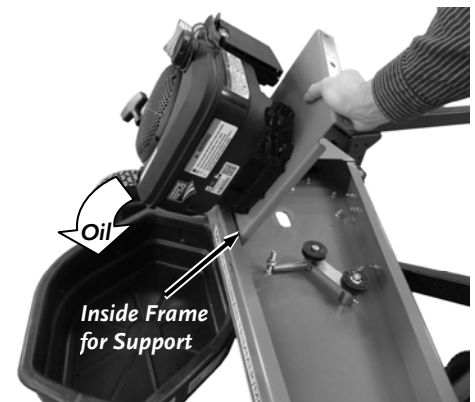

Figure 35
5. Lift the Engine and mount up and then set it down into the Frame cavity (**Figure 35**).